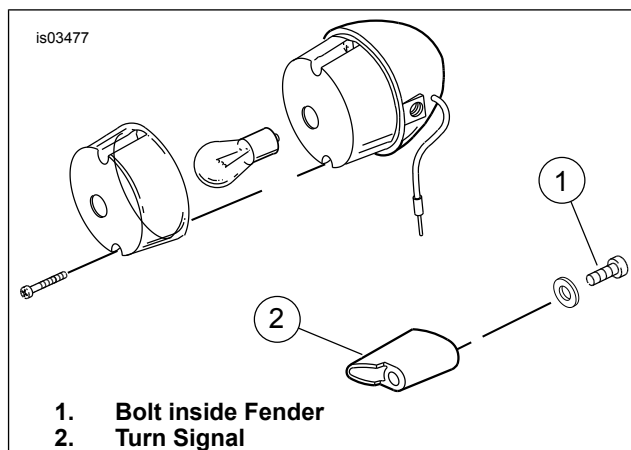

Figure 3. Dyna Rear Turn Signal (Typical Airfoil Style Support)
2. See Figure 3. Remove the existing lamp support by removing the bolt and washer (if present) inside rear fender, then remove the lamp housing from the support. Save hardware for installation. Discard support.